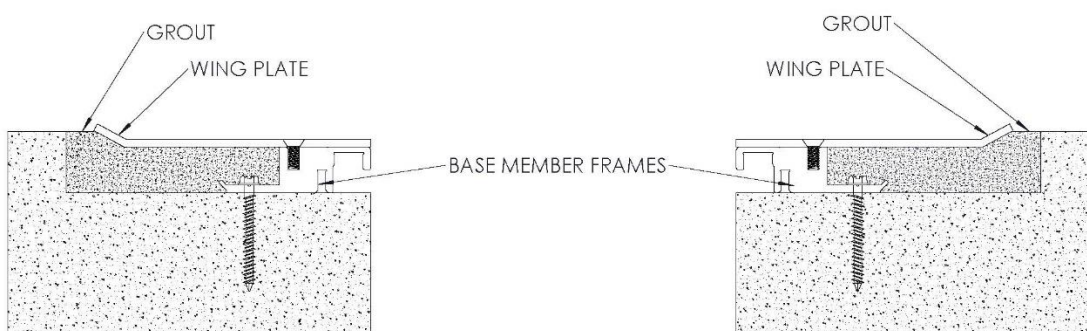

FIGURE 4
4. Protect the exposed surface of the expansion joint, grout in the blockout level with the surrounding floor. **See Figure 4**